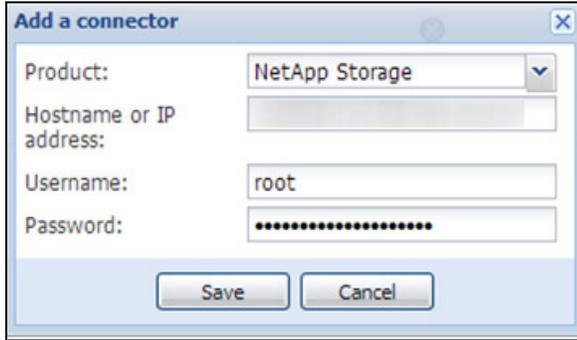

Figure 122. Add NetApp
5. Select **Settings > Infrastructure Connectors**. The Infrastructure Connectors Select Add a connector in the right panel. The Add a connector dialog opens (see Figure 122).